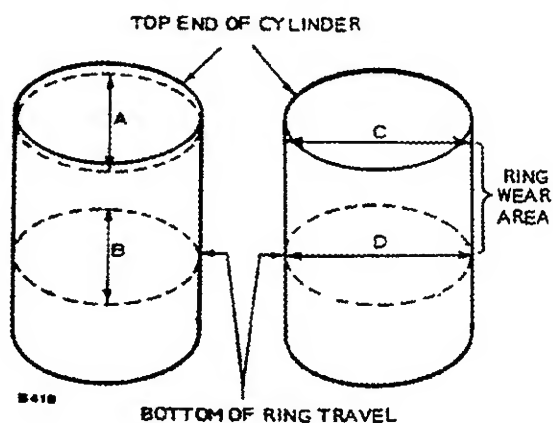

FIGURE 74. CYLINDER BORE MEASUREMENT
4. Referring to Figure 74, measure cylinder diameter and record the readings as follows: